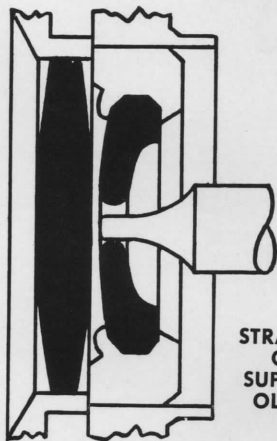

Fig. 2A
- a. The straight part of the pivot which rides on the hole jewel when the watch is in the "pendant up" position. See Fig. 2A.